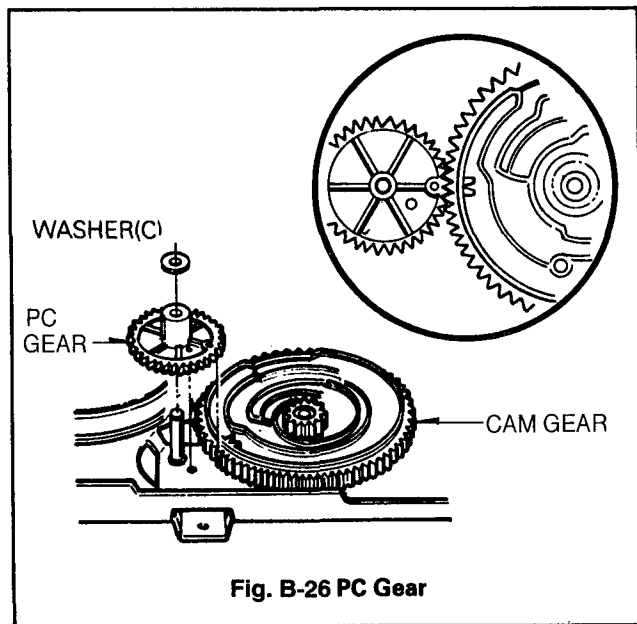

Fig. B-26 PC Gear
- ① Align the Projection of Rack Gear T with the hole of Loading Gear
- ② Drive the Rack Gear F.L in the direction of arrow(D)
- ③ Hole of Cam should be aligned with the hole of chassis, and the groove(■) of Cam Gear should be aligned with the hole of PC Gear (Fig B-26)
26. PC Gear(Fig. B-26)
- ① The Groove of PC Gear should be aligned with the groove(V) of Cam Gear, and another hole of it should be aligned with the hole of chassis(Fig B-26)